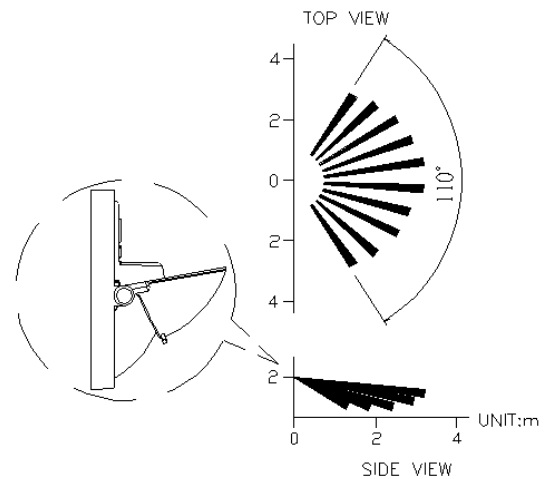

FIGURE 7c
- To restrict the detection area further, hinge the PIR cover to the third position FIGURE 7c.